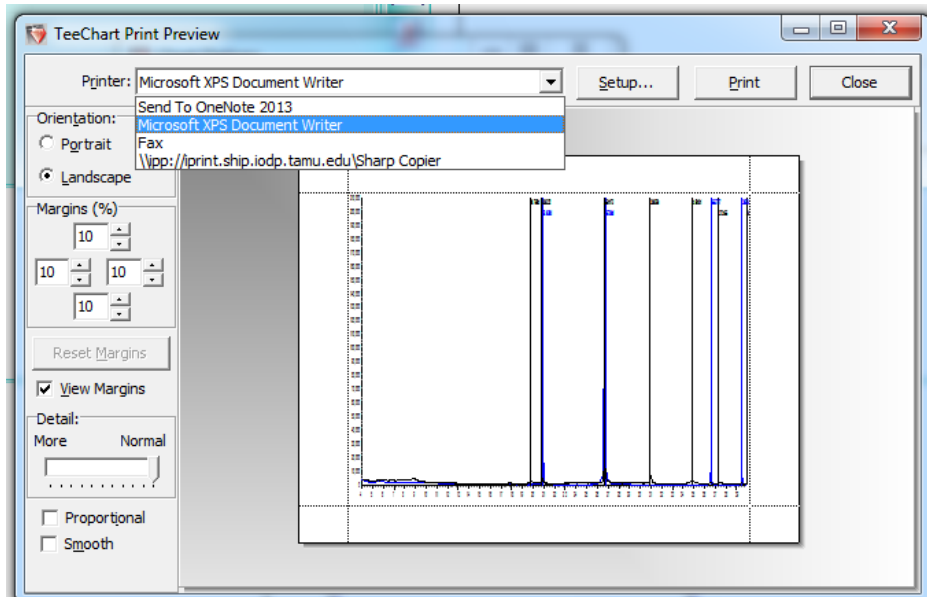

Figure 24. Print Window with Printer dropdown highlighted
3. Select the dropdown menu to select a printer. Choose 'Microsoft XPS Document Writer' to get a digital image of the graph (Figure 24). Then select 'Print'.